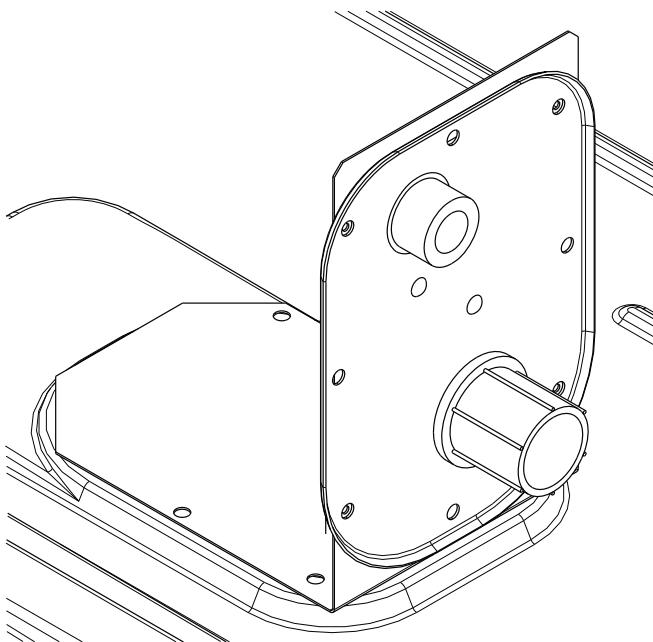
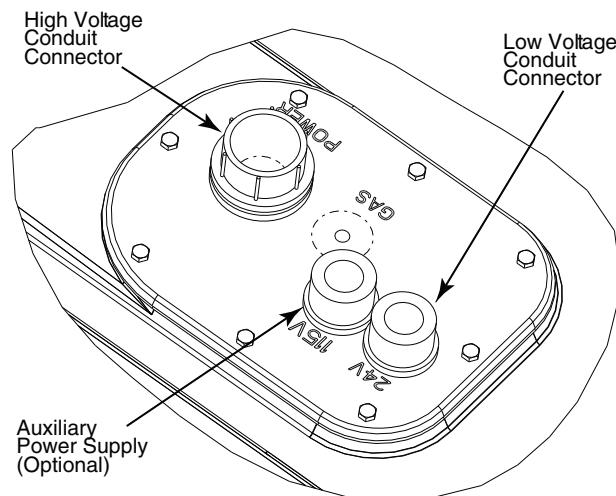

Fig. 26 — Thru-the-Base Fitting Assembly (Shown in Shipping Position)
Fig. 27 — Thru-Base Connection Fittings
This service connection kit consists of a 1/2 in. electrical bulkhead connector and a 3/4 in. electrical bulkhead connector, connected to an "L" bracket covering the embossed (raised) section of the unit basepan in the condenser section (see Fig. 26 for shipping position). The 3/4 in. bulkhead connector enables the low-voltage control wires to pass through the basepan. The 1/2 in. bulkhead connector allows the high-voltage power wires to pass through the basepan. See Fig. 27.
3. Place the gasket over the embossed area in the basepan, aligning the holes in the gasket to the holes in the basepan. See Fig. 27.